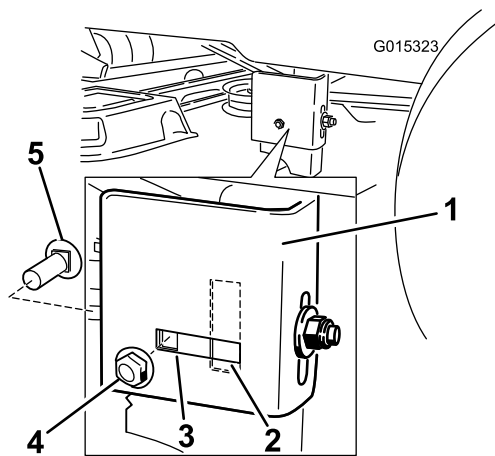

Figure 51
- Move to the left side of the machine. Remove the side carriage bolt and locking nut from the fixed position and install it into the rear, slotted position and leave it slightly loose (Figure 51).